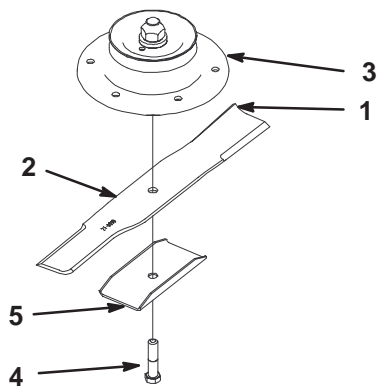
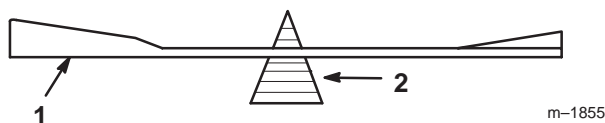

Figure 41
Figure 43
1. Hold the blade end using a rag or thickly-padded glove. Remove the blade bolt, blade stiffener and blade from the spindle shaft (Fig. 41).
2. Check the balance of the blade by putting it on a blade balancer (Fig. 43). If the blade stays in a horizontal position, the blade is balanced and can be used. If the blade is not balanced, file some metal off the end of the sail area only (Fig. 41). Repeat this procedure until the blade is balanced.
1. Install the blade onto the spindle shaft (Fig. 41).
Important The sail part of the blade must be pointing upward, toward the inside of the mower to ensure proper cutting (Fig. 41).
2. Install the lock washer and blade bolt (Fig. 41). Torque the blade bolt to 85–110 ft-lb (115–140 N•m).